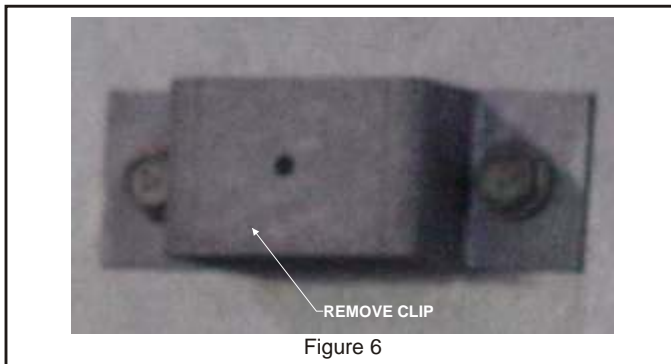

Figure 6
4. Remove both of the clips that are mounted to the upper spacer panel of the unit. **See Figure 6.**